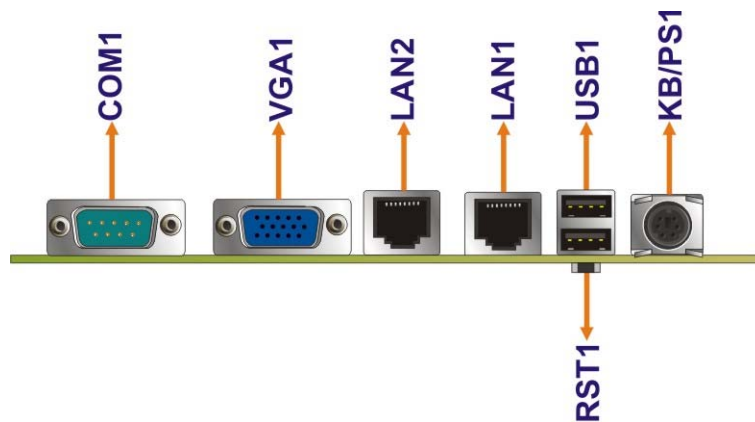

Figure 3-23: NANO-945GSE2 External Peripheral Interface Connector
Figure 3-23 shows the NANO-945GSE2 external peripheral interface connector (EPIC) panel. The NANO-945GSE2 EPIC panel consists of the following:
- CN Location: See **Figure 3-23** (labeled 1)
CN Location: See **Figure 3-23**
- CN Location:** See **Figure 3-23** (see 2)
- CN Location:** See **Figure 3-23**